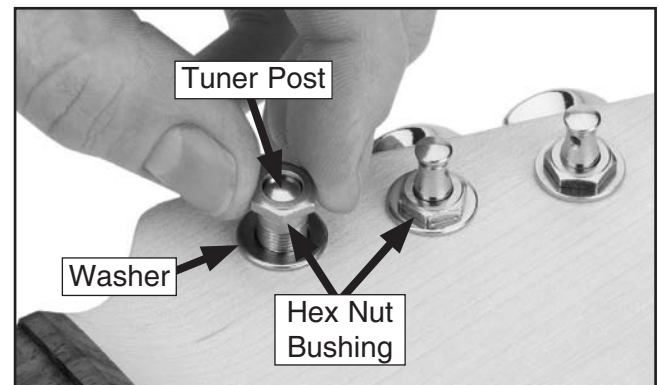

Figure 20. Installing hex nut bushing onto tuner.
2. Slide a washer over the tuner post and screw the hex nut bushing onto the tuner, as shown in **Figure 20**.